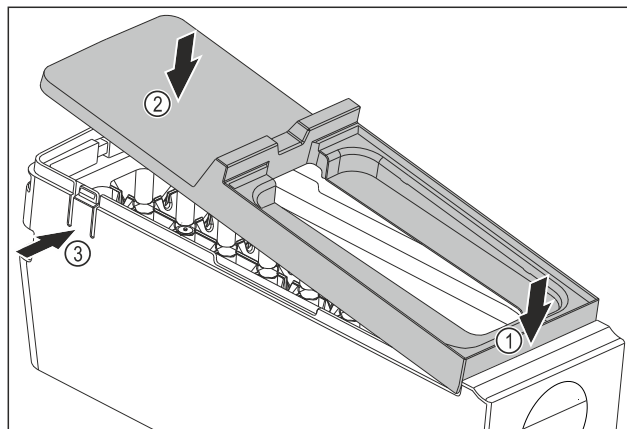

Fig. 157
- Installing the EasyTwist-Ice body cover: Place the cover on the front. Fig. 157 (1)
- Lower the cover at the rear. Fig. 157 (2)
- The cover locks into both tabs Fig. 157 (3) audibly.